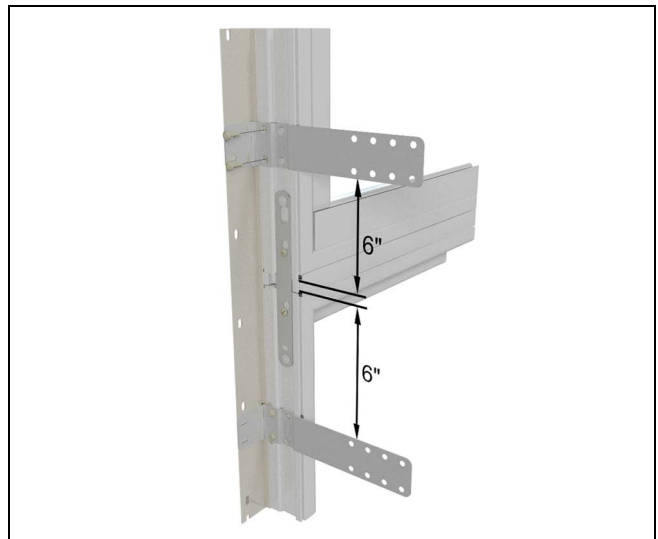

Figure 19
3. Apply nailing fin, nailing fin gasket connectors and structural brackets on the entire assembly. See Figure 19.